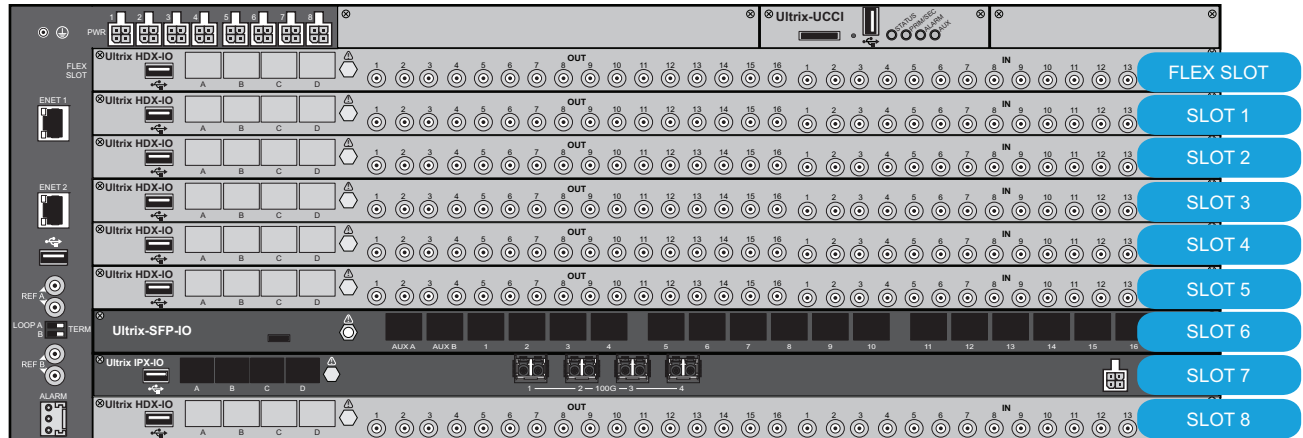

Figure 14 Slot Numbering — ULTRIX-NS-FR5
**Figure 14** outlines the numbering scheme for the ULTRIX-NS-FR5 chassis. Note that the **FLEX** slot is the topmost slot.